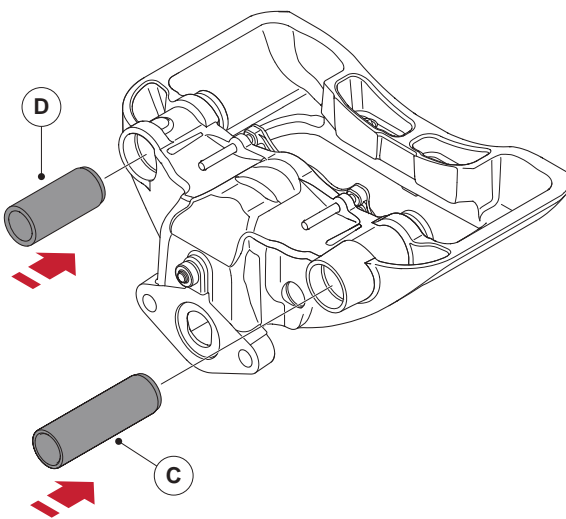

Fig. 70 - Inserting the guide pins
7. By hand, insert the fixed bearing guide bolt (C) into the bearing bushing and the floating bearing guide bolt (D) into the composite bushing, see ► Fig. 70. The longer guide pin (C) is inserted into the fixed bearing side. Note that one end of the guide pins has a machined groove. This side should be inserted first. No grease is required.